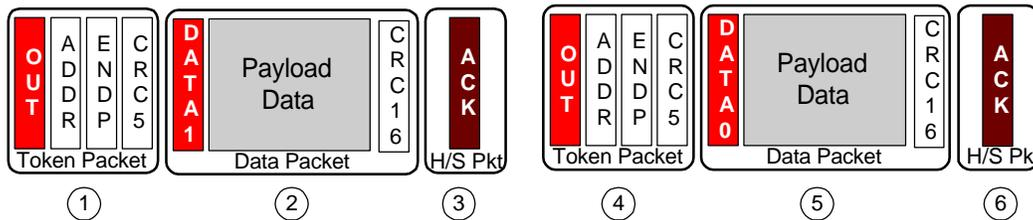

Figure 1-3. USB Packets
Figure 1-3 illustrates a USB transfer. Packet ① is an OUT token, indicated by the OUT PID. The OUT token signifies that data from the host is about to be transmitted over the bus. Packet ② contains data, as indicated by the DATA1 PID. Packet ③ is a handshake packet, sent by the device using the ACK (acknowledge) PID to signify to the host that the device received the data error-free.
Continuing with Figure 1-3, a second transaction begins with another OUT token ④, followed by more data ⑤, this time using the DATA0 PID. Finally, the device again indicates success by transmitting the ACK PID in a handshake packet ⑥.